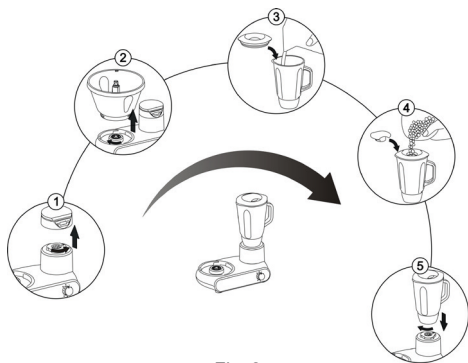

Fig. 2
- Before installing the attachments make sure that the operation mode switch (10) is set to the position «0» and the plug is not inserted into the mains socket.
- Remove the scale from the blender drive (fig.2).